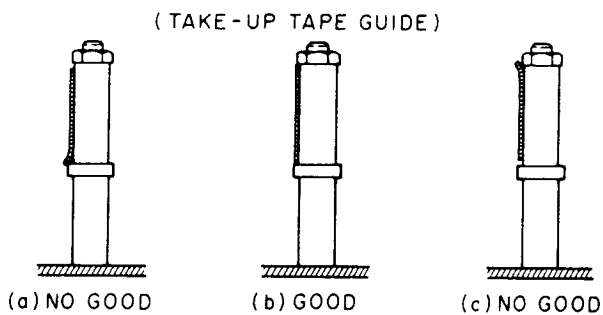

Fig. 5-4
- 4) Slightly turn the screw (a) until the tape edge barely touches the lower part of the Take-up Tape Guide without any curl as shown in Fig. 5-4.